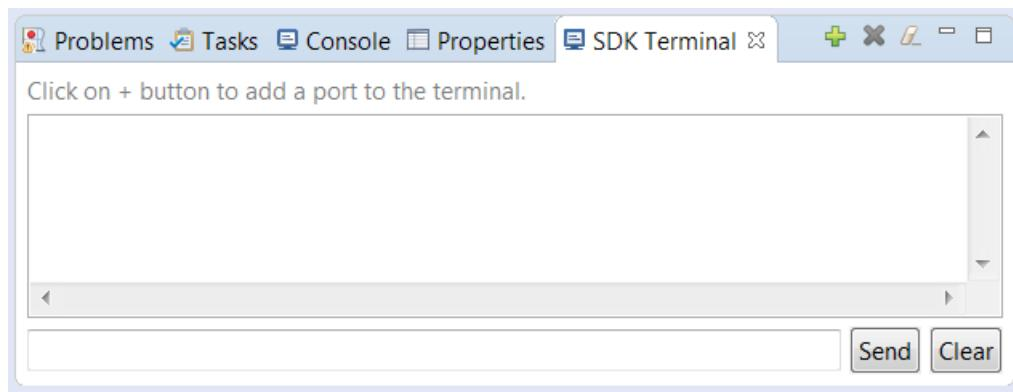

Figure 10-23: The Connect Icon
- Click the **Connect** icon (Figure 10-23).